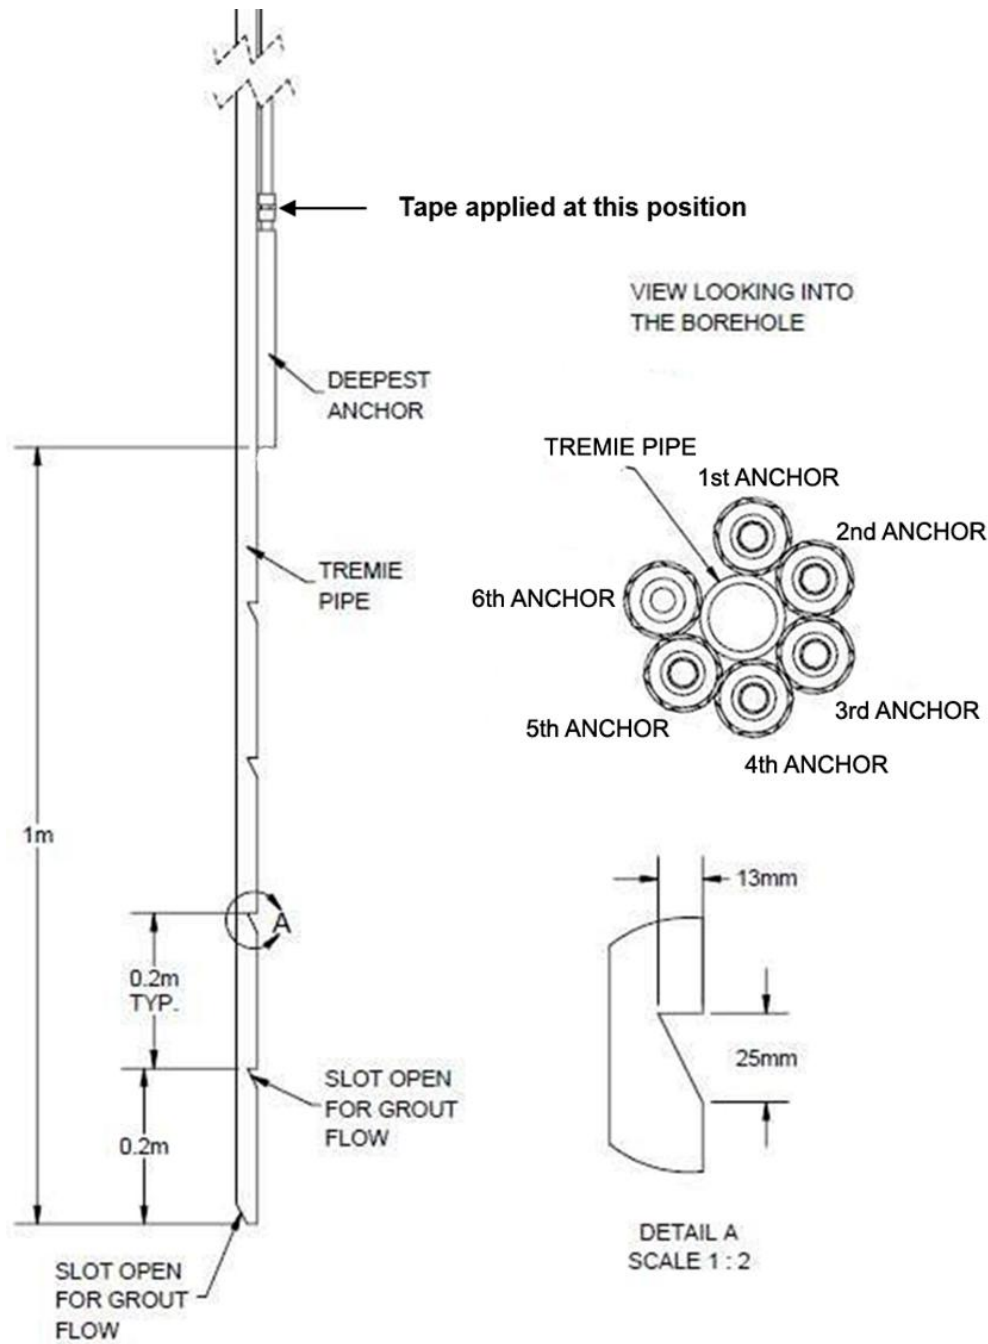

Figure 12: Slotted Openings on Tremie Pipe and Anchor Orientation
1. Cut a few angled slots (approximately 25 mm (1 in.) in length, see Figure 12), 0.2 m (8 in.) apart from each other, starting approximately 0.2 m (8 in.) from the bottom of the grout delivery line (tremie pipe).
2. Place the first groutable anchor beside the tremie pipe, approximately 1m from the bottom of the tremie pipe (see Figure 12).
3. Tie a safety wire rope to a slot towards the lower end of the tremie pipe (excepting the last slot) to aid the lowering of the anchor and rod assembly into the borehole (see Figure 12).